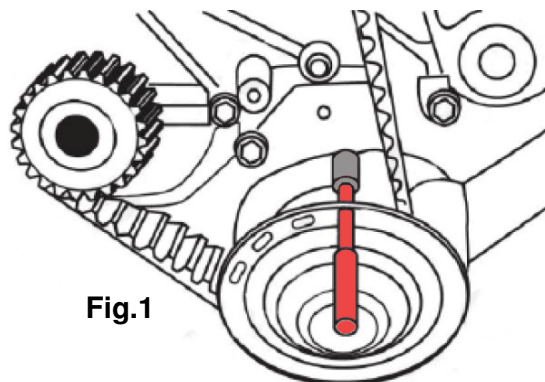
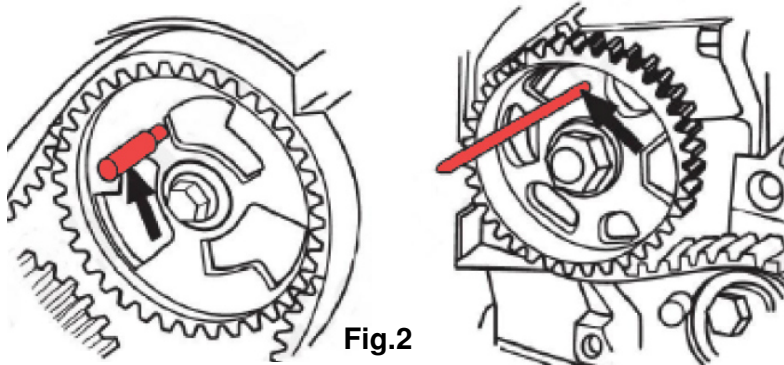
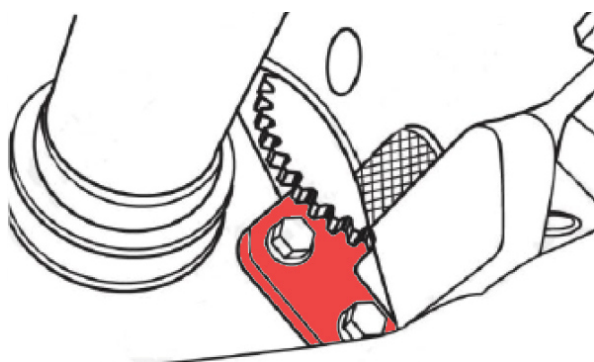

Fig.1
Fig.2
Fig.3
This pin is used to lock the crankshaft in its timed position. It fits through a hole in the front pulley belt guide plate as shown in Fig.1.
These pins are designed to lock the camshaft pulley and high pressure fuel pump in their timed position as shown in Fig.2.
Specifically designed to fit the Mini series of engines. This tool allows the flywheel to be held solid whilst undoing and tightening the front pulley fixings. (See Fig.3)
1. Remove the flywheel cover and install tool (3) as shown in (Fig.3).
3. Remove tool (3) and turn the crankshaft to TDC cylinder no.1.
5. Fit tool (1) and (2) as shown in Fig.1 and Fig.2.